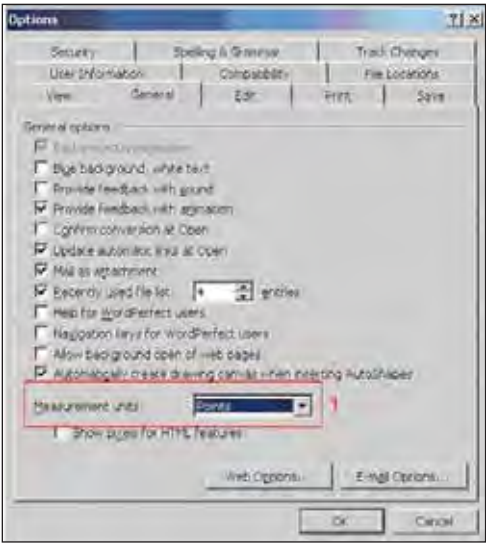

Fig. 1
2. Because Excel uses pixel measurement instead of inches, you will want to set this to match in Word. Go to **Tools >>> Options** to bring up the property sheet for Word. Click on the **General** tab, and locate the option to change the unit of measure. See **Fig. 1**. Change it to **Points** as this is the same as pixel.
- See Fig. 1.